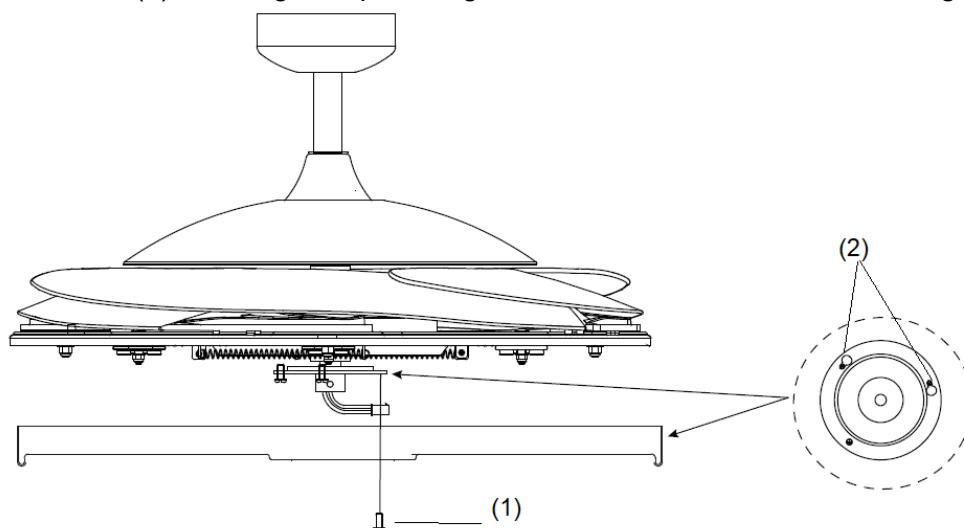

Fig. 7
LIGHT KIT INSTALLATION (Fig. 7 & 8)
1. Loosen the screw (1) from the fan bracket. Align the two slot screws with the keyhole slots (2) of the light kit plate. (Fig. 7)
2. Turn the light kit plate counterclockwise until the slot screws are firmly at the end of the slots (2).
3. Secure screw (1) to the light kit plate. Tighten all three screws. Do not over-tighten.